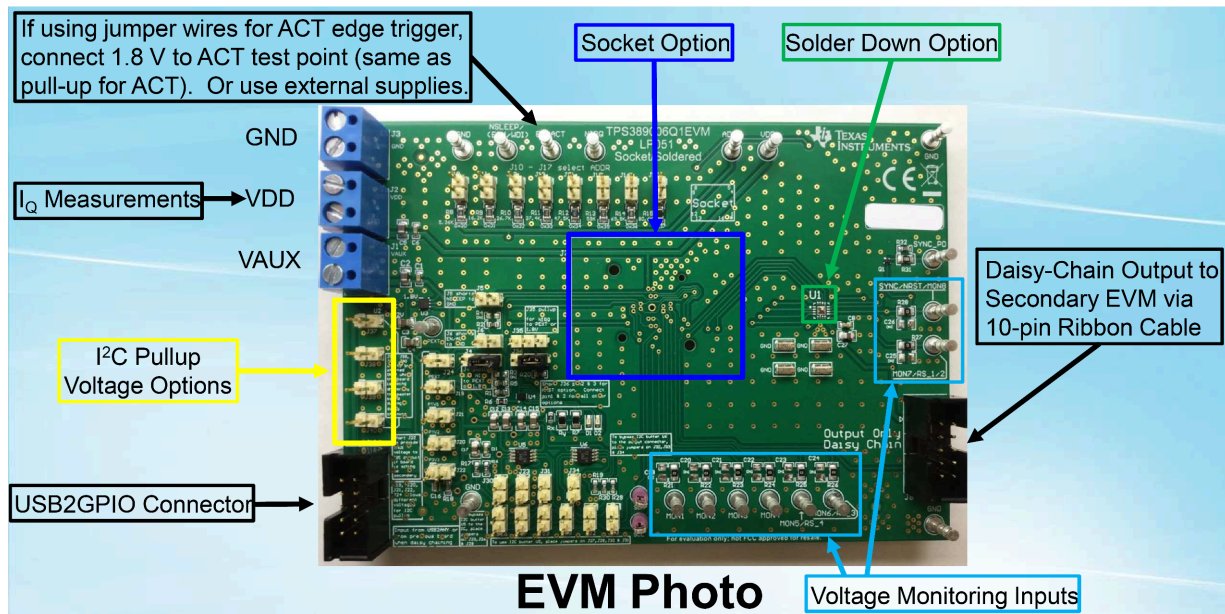

Figure 4-1. TPS389006Q1EVM Connection Description
8. The description of the TPS389006Q1EVM connections can be found in Figure 4-1.